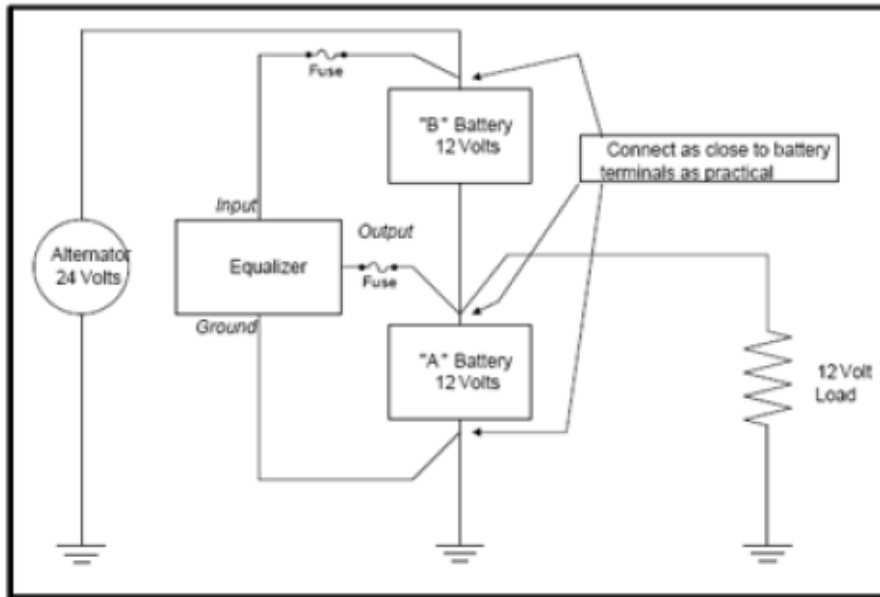

Figure 5
Standard Connection (Figure 5) This diagram emphasizes the Equalizer connection points for best operation. Connect the Output and Ground wires directly to the "A" battery if possible. The Input wire should connect to the "B" battery "POS" terminal. It is assumed that the connection
- Connect loads to the battery, not equalizer output. The common connection should be the battery post. (See fig. 5 and 6)